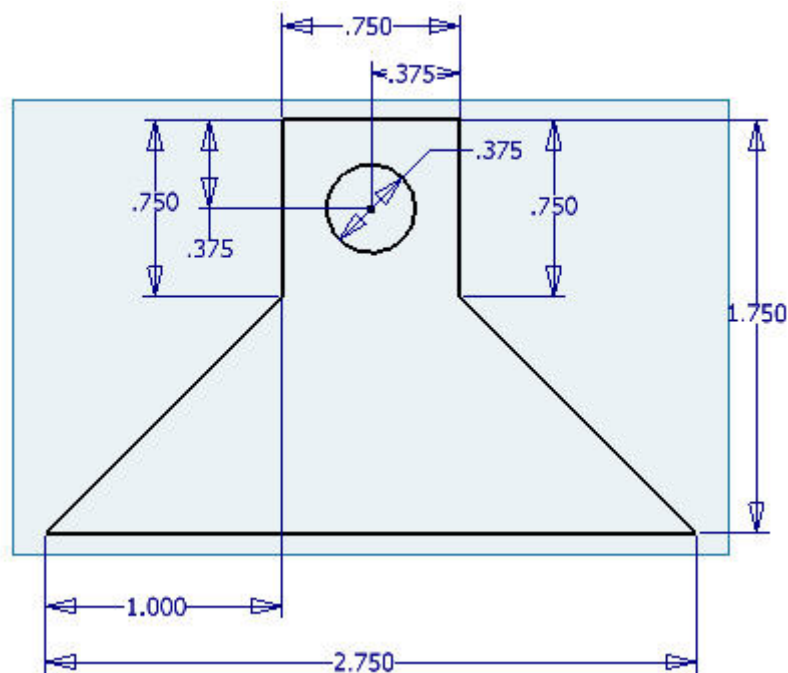

Figure 4
3. Select the **Line** Button in the 2D sketch panel and create the sketch shown in Figure 4.